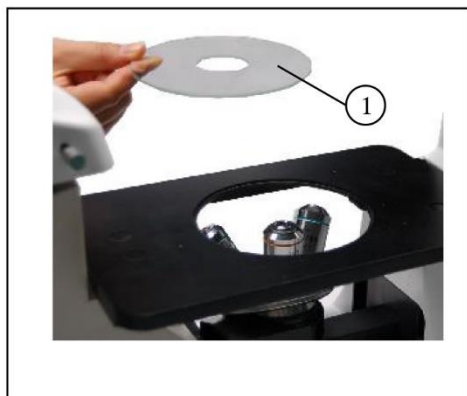

Figure 9
2.2.6. Installing the stage inserted plate (Figure 9)